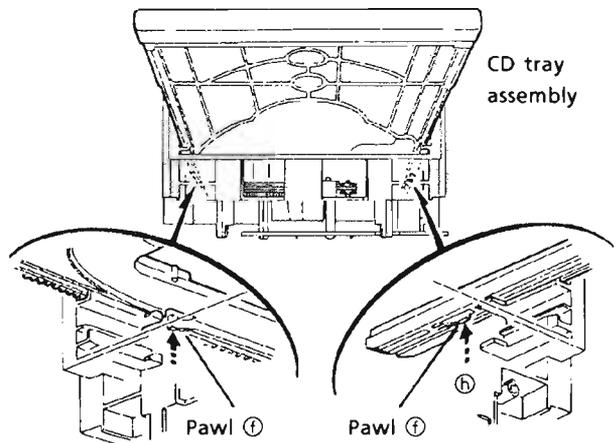

Fig. 35
14. Press 2 pawls (f, f') located rear side of the CD tray ass'y according to an arrow ⑧ to remove the CD tray ass'y. (See Fig. 35.)